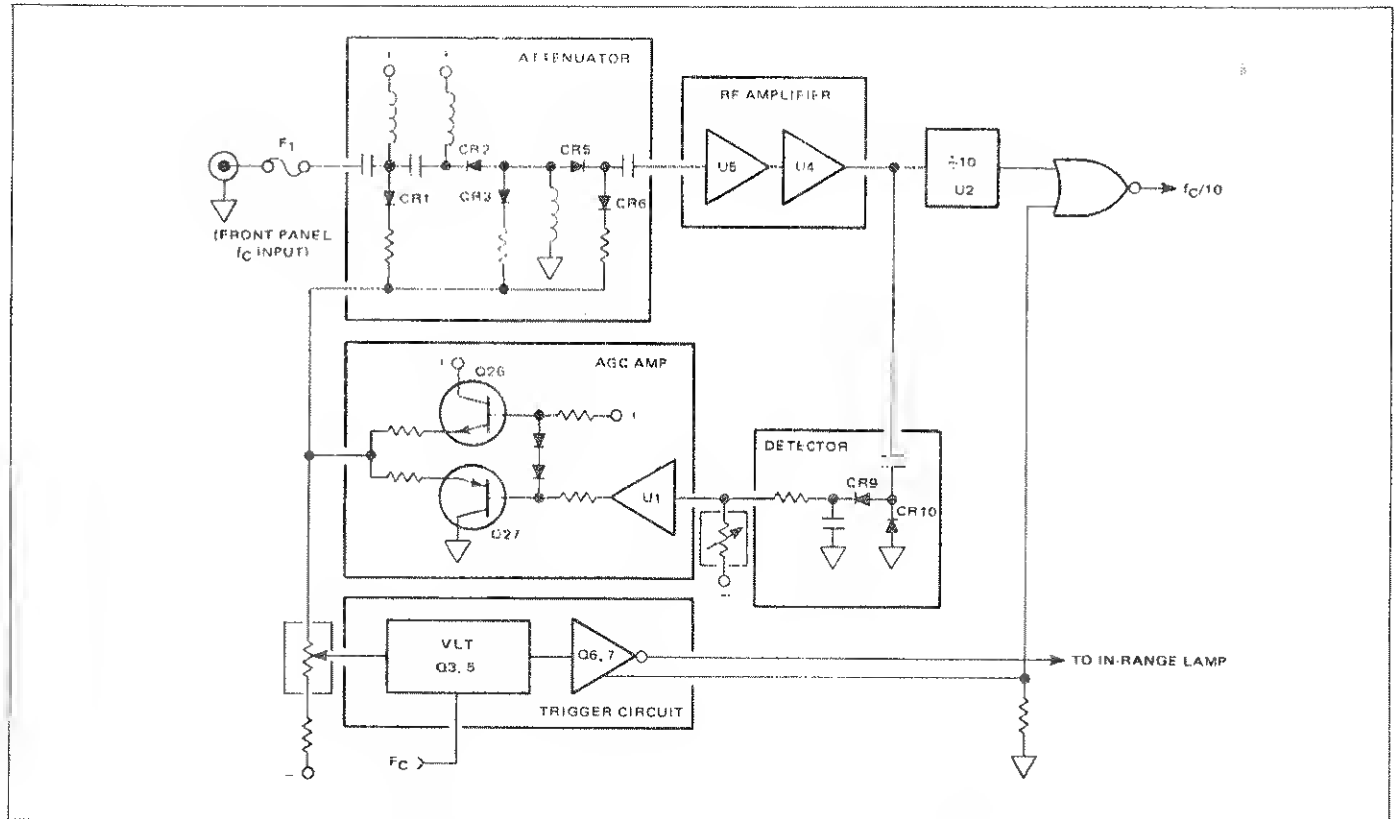

Figure 4.13 - Prescaling Amplifier, F_c (Model 9035 Only)
4.4.3.1 This circuitry (figure 4.13) automatically adjusts the amplitude of the channel C input signal to provide a suitable level for the remaining circuitry, divides the input signal frequency by ten, and generates a high, FC logic signal when an input of the correct frequency range and of sufficient amplitude is applied to the channel C input connector. The circuitry, shown in figure 4.13, consists of an attenuator, RF amplifier, divider, detector, AGC amplifier, trigger circuit, and output signal gate.